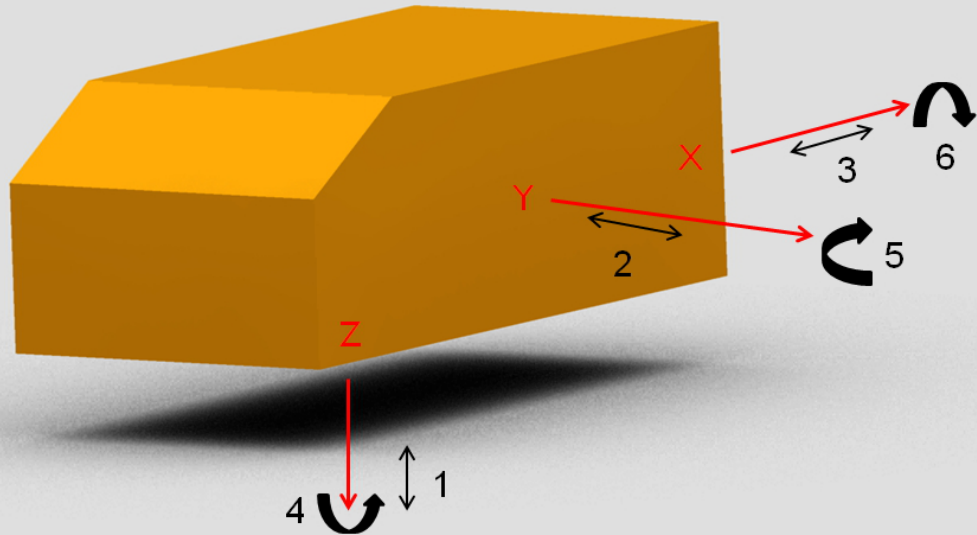

Figure 16
- **Tier:** Changes the analysis type. Options are 2D with 0DOF (2-dimensional with 0 degrees of freedom), 3D with 0DOF (3-dimensional with 0 degrees of freedom), 2D with 2DOF (2-dimensional with 2 degrees of freedom - heave and yaw) and 3D with 3DOF (3-dimensional with 3 degrees of freedom - heave, yaw and roll). For the definitions of previously mentioned degrees of freedom, please see (Fig. 16). Usually, 3D tiers give more accurate results with greater computational time. On the other hand, 2D tiers complete simulation faster but the accuracy is lower. 0 DOF tiers give faster and accurate results for smaller wave heights. On the other hand, 2 and 3 DOF tiers gives more realistic results for larger wave heights with longer computational time. *Picking 2 and 3 DOF tiers will cause the simulation to crash since these feature haven't been implemented yet.*